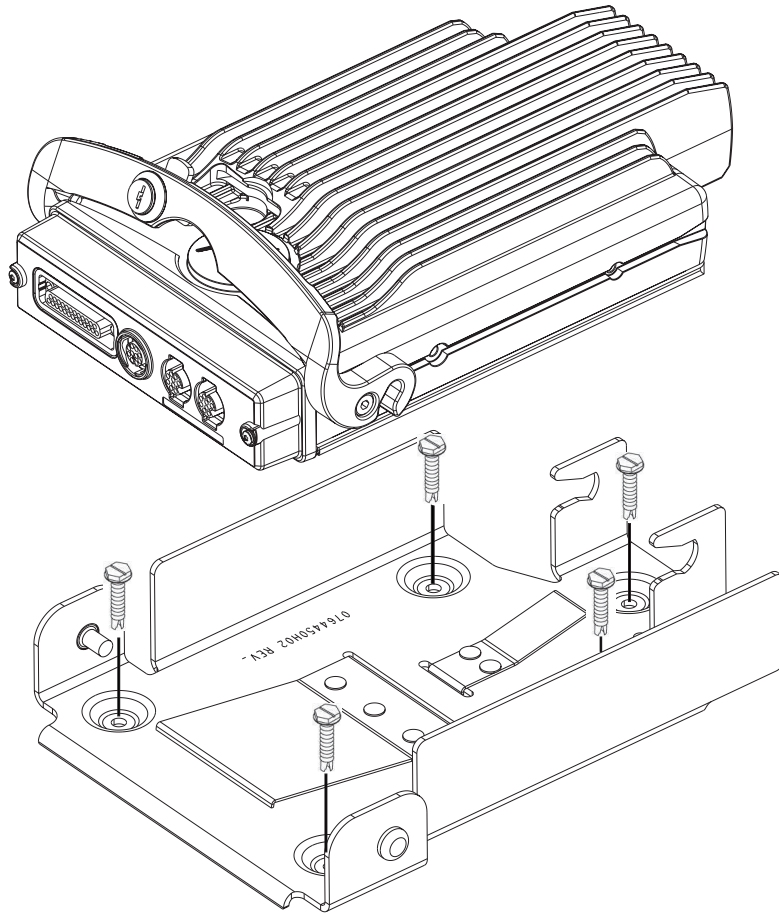

Figure 2-12. 100W Radio Mounting into Quick Release Trunnion
4. A. *Quick release trunnion (HLN6909\_)*: See Figure 2-12. Two keys were packaged with the radio and are needed for proper radio installation. After the trunnion has been mounted in the vehicle using the screws provided, insert the rear of the radio into the rear catches of the trunnion at an angle of approximately 20°, and push it into the trunnion until it contacts a hard stop. With the handle rotated toward the front of the radio, rotate the radio down into the horizontal position. If the radio is not completely inserted, it cannot be rotated to this position. With the key in the unlocked position (3 and 9 o'clock), rotate the handle towards the back of the radio to secure it. Using the keys provided, lock the handle in place and remove the keys. The handle must be locked in place with the keys removed for proper installation. The keys can only be removed from the lock when it is in the locked position.